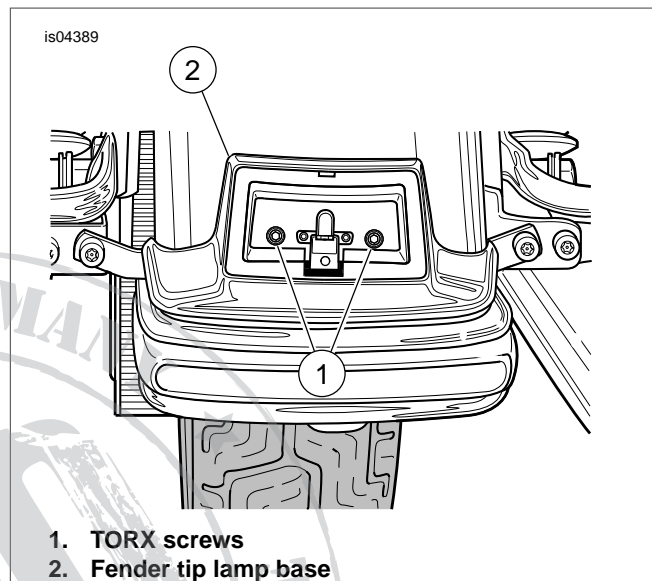

Figure 2. Fender Tip Lamp Base
6. See Figure 2. Holding inner fender nuts behind fender tip lamp, remove two TORX® screws (1) to release fender tip lamp base (2). Pull lamp away from fender to draw out wire harness.